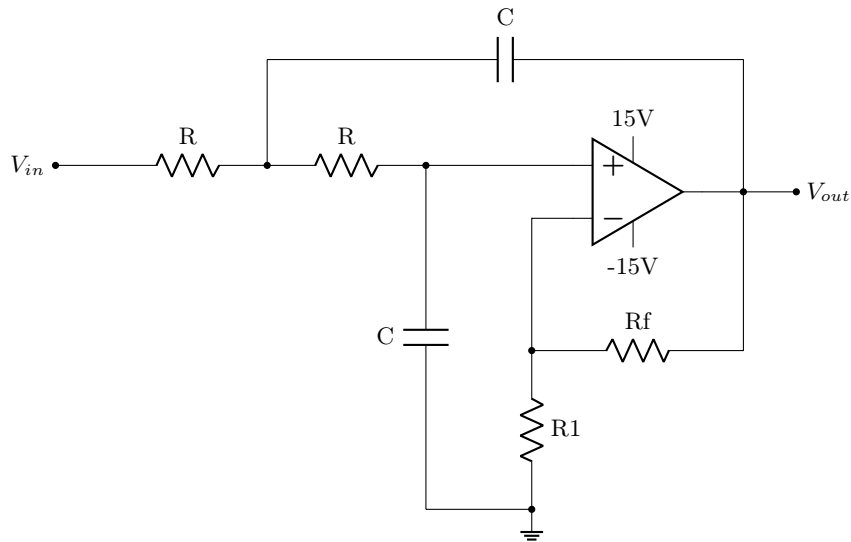

Figure 1: Low Pass Butterworth Filter
3.1 You are to construct the Low-Pass Butterworth Filter from Figure 1 using the following component values:
1.1 You are to construct the Low-Pass Butterworth Filter from Figure 1 using the following component values: